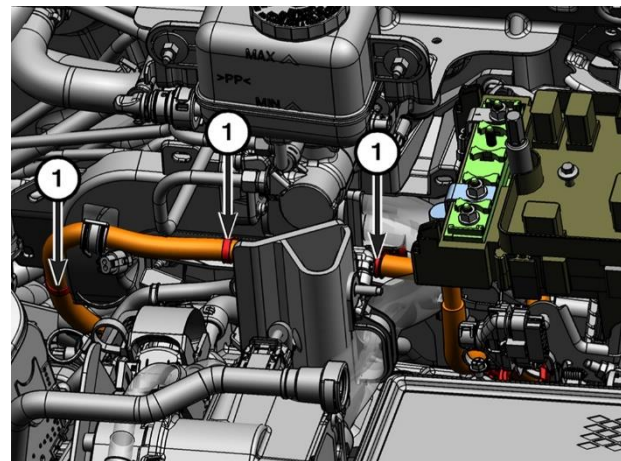

Figure 29 – 12-Volt Cable Clips
11. Release the clips (1) that secure the 12-volt cable to the high voltage cable carrier and extend the harness to prepare for removal from below (Figure 29).
38. Position the 12-volt cable to the bulk head cable carrier then secure the clips (1) (Figure 29).